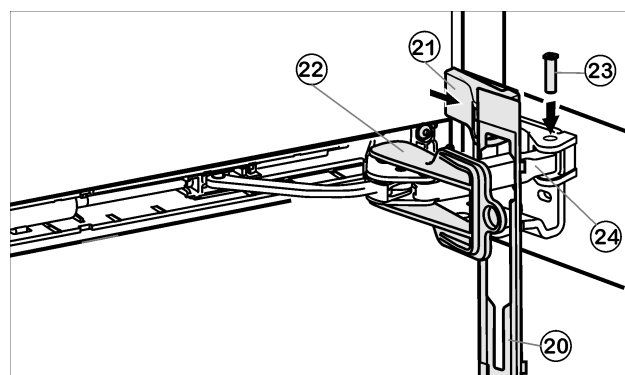

Fig. 15
- ▶ Hook panel *Fig. 15 (20)* into the damper bracket such that the detent hooks are pointing forwards and the front side is facing the appliance.
- ▶ Pull damper bracket *Fig. 15 (24)* towards bearing bracket and insert bolt *Fig. 15 (23)* from above such that the square is resting in the recess.
- ▶ Position cover *Fig. 15 (21)* and snap in.
- ▶ Remove locking device *Fig. 15 (22)* by twisting it.
- ▶ Snap panel *Fig. 15 (20)* into place on the door.